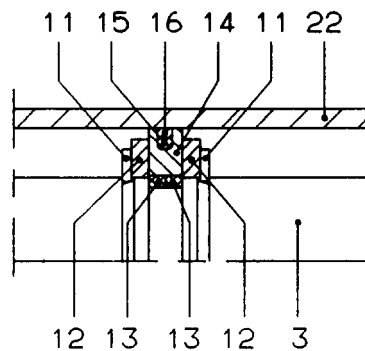

Fig. 19
2.2 Assembling the piston (14)
Mount the O-ring (15) and the sealing ring (16) to the piston (14) (*Figs. 19/20*).
Mount the support rings (12) as shown in *Fig. 19*.